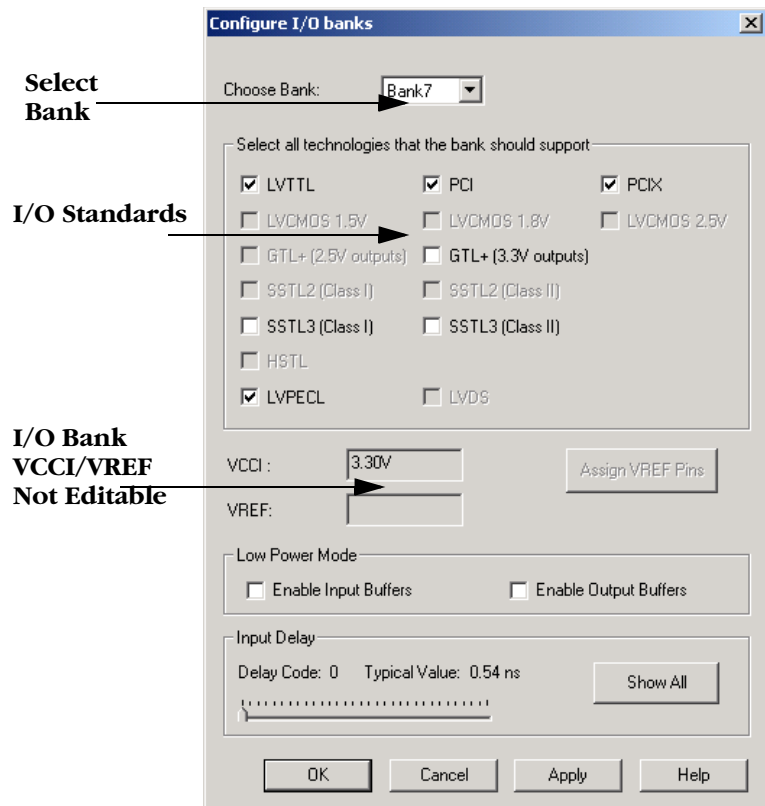

Figure 2-1. Configure I/O Banks Dialog Box
2. **From the Edit menu, click Select *Configure I/O Banks*.** The Configure I/O Banks dialog box is displayed, as shown in Figure 2-1.